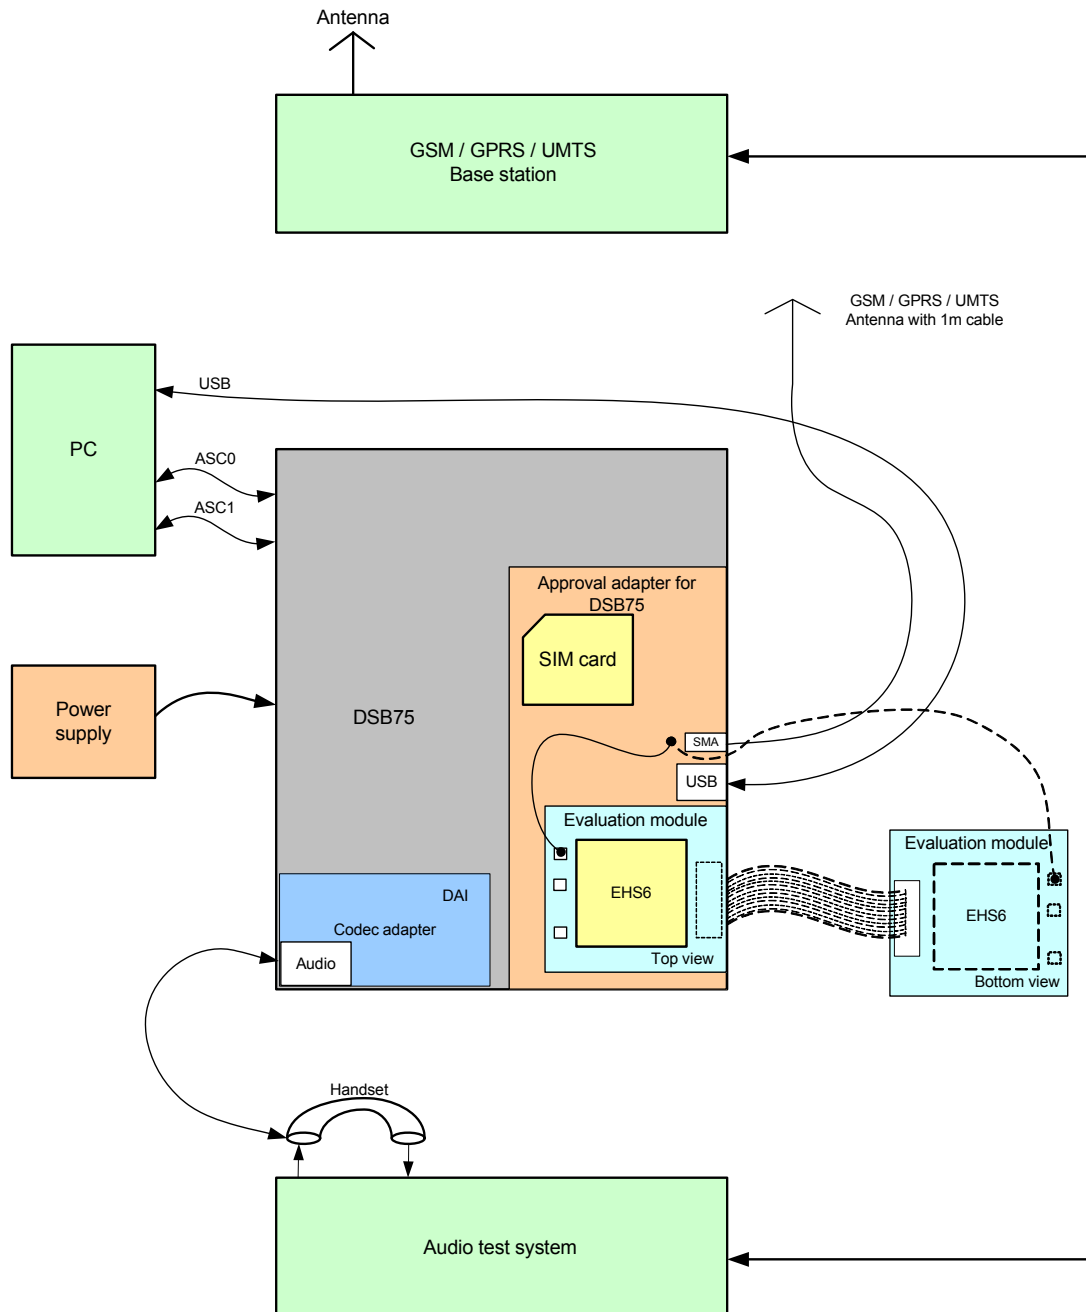

Figure 65: Reference equipment for Type Approval
1. For RF performance tests a mini-SMT/U.FL to SMA adapter with attached 6dB coaxial attenuator is chosen to connect the evaluation module directly to the GSM/UMTS test equipment instead of employing the SMA antenna connectors on the EHS6-DSB75 adapter as shown in Figure 65. The following products are recommended: